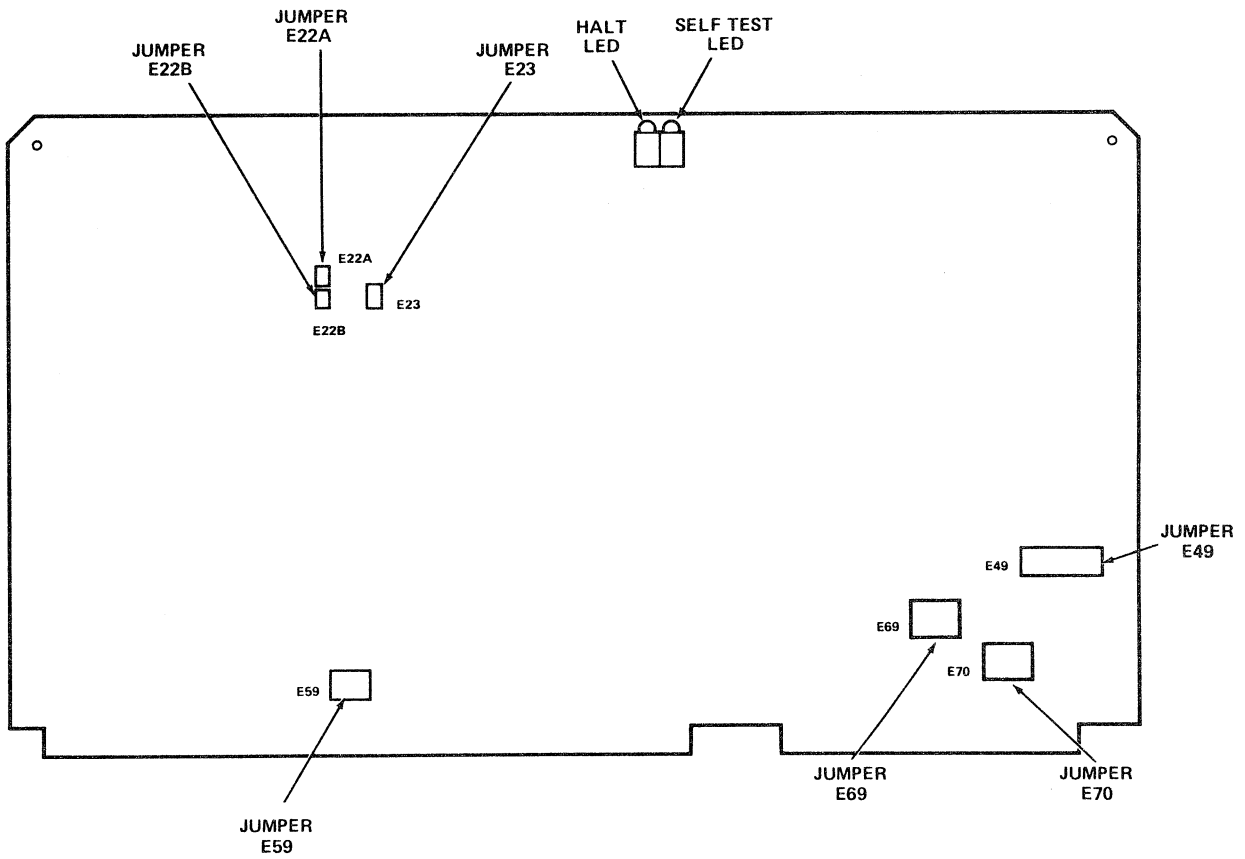

Figure 5-6 SIO Board
Figure 5-6 illustrates the positions of the two diagnostic LEDs and all configuration areas on the SIO board. Most SIO board configuration options (e.g., baud rate and protocol selection) are software-selectable and are stored on the diskette. The following paragraphs describe the shorting plug settings controlling hardware elements that cannot be selected by the software.
- **Areas E22A, E22B, and E59** are used to assign the SIO board number (SIO 1 through SIO 4) and to set the Multibus interrupt. Board numbers must be assigned in sequence, in ascending numeric order. Table 5-4 lists the numbers assigned by each combination of shorting plug positions. The locations of these areas are indicated in Figure 5-6. Board number assignment is required only for boards ordered separately; boards shipped with a Series/1 server have preassigned board numbers.